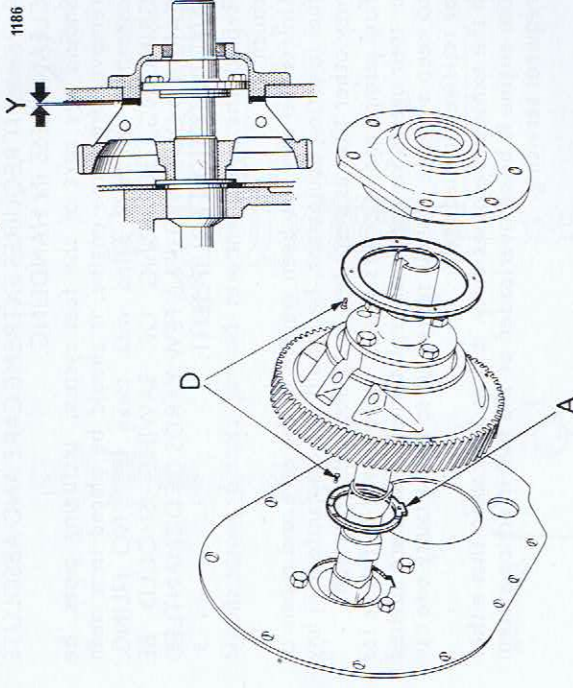

Fig. 13
54. To replace camshaft and time engine (Fig. 13 & 14)
- (b) When fitting new thrust washers, be sure that the grooved side of the inner thrust washer is against the thrust face of the camshaft and that the tongue (A) is located in the recess. Fit new pins (D). The inner thrust washer is located by the gear cover plate and the outer one by the extension shaft housing or blanking plate.